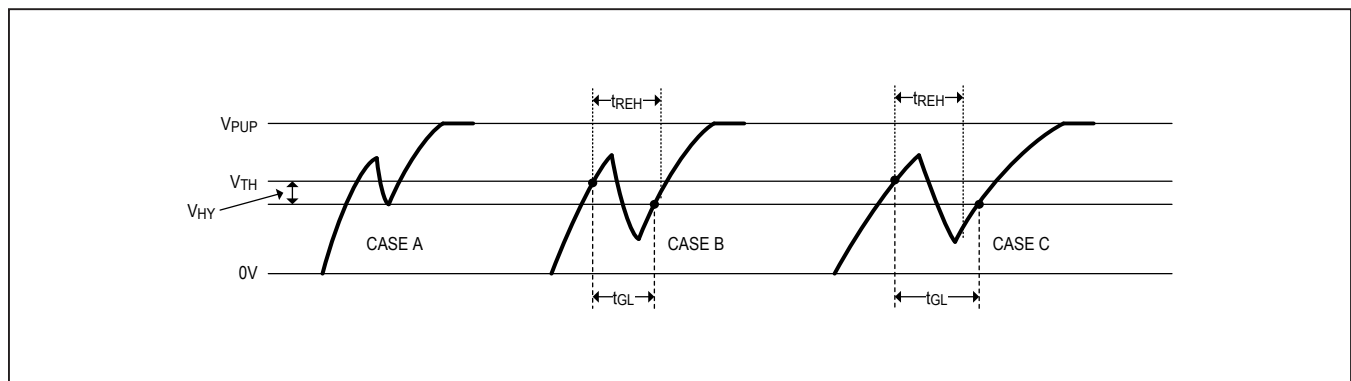

Figure 7. Noise Suppression Scheme
- There is a hysteresis at the low-to-high switching threshold V_{TH} . If a negative glitch crosses V_{TH} , but does not go below $V_{TH} - V_{HY}$, it is not recognized (Figure 7, Case A). The hysteresis is effective at any 1-Wire speed.
- There is a time window specified by the rising edge hold-off time t_{REH} during which glitches are ignored, even if they extend below the $V_{TH} - V_{HY}$ threshold (Figure 7, Case B, $t_{GL} < t_{REH}$). Deep voltage drops or glitches that appear late after crossing the V_{TH} threshold and extend beyond the t_{REH} window cannot be filtered out and are taken as the beginning of a new time slot (Figure 7, Case C, $t_{GL} \geq t_{REH}$).